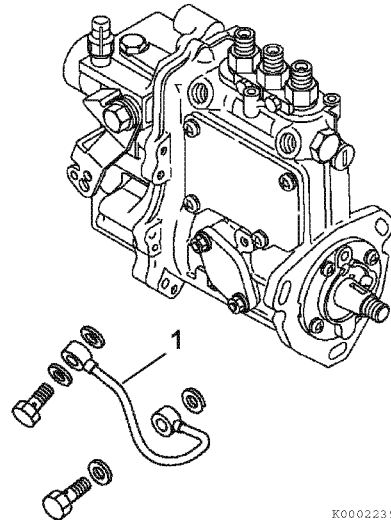

Figure 7-20
11. Reinstall the lube oil line (**Figure 7-20, (1)**).